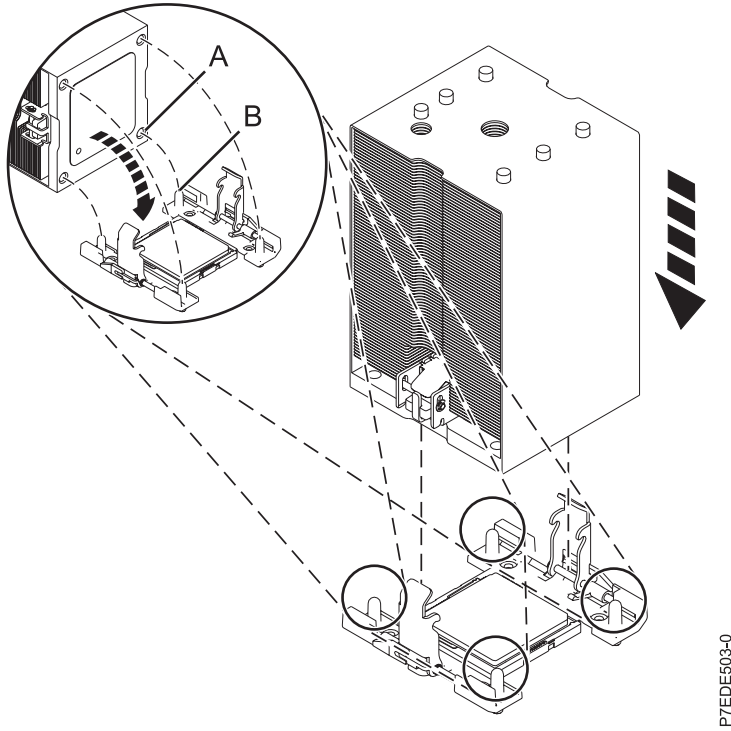

Figure 10. Installing the heat sink
- a. Position the heat sink using the guide holes on the heat sink (A) to correctly align it with the guide pins (B). See Figure 10 on page 12.